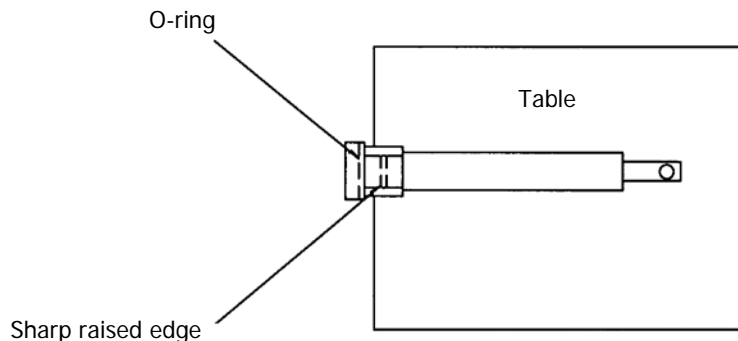

Figure 29 Seal installation
8. Lay the plunger on a flat tabletop. Position the plunger so that the seal (from the O-ring up) hangs over the edge (Figure 29). Slowly roll the plunger along the table edge, pressing firmly on the portion of the seal below the O-ring. Rotate the plunger three complete turns. This is necessary for the sharp, raised edge of the plunger to bite into the seal for a secure fit.